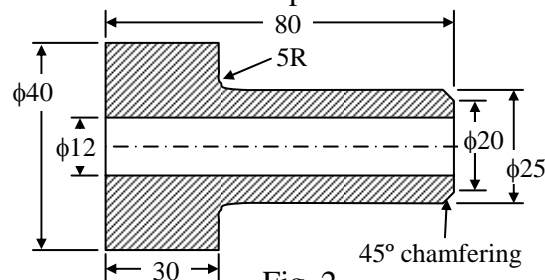

Fig. 2
5. Prepare manual part programming for turning the component shown in Fig.2 on CNC lathe using ISO code. Assume the tool tip radius is 2 mm.